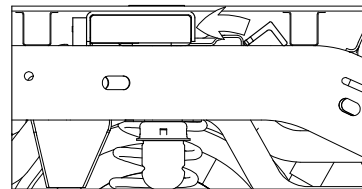

Figure D2: (Cut-away view)
2. **Install the front cross member.** Center the cross member in the truck so that the holes in the cross member will line up with the slots in the center. Using an adjustable wrench or other means, stand the cross member up so that leg of the angle with the holes is vertical. Slide the cross member back against the center, see Figures D2 and D3. The wiring harness should be off the top of the frame to the inside. Make sure the harness does not get pinched between the frame and the hitch parts. Attach the center and the cross member with two 1/2" x 2-1/4" long bolts with flat washers in the two center holes only. The bolt heads must be toward the rear of the truck. It may be necessary to retract the latch pin to make room to insert the bolts into the center section. Add a lock washer, and finish nut to both bolts and hand tighten. Do not fully tighten at this point.